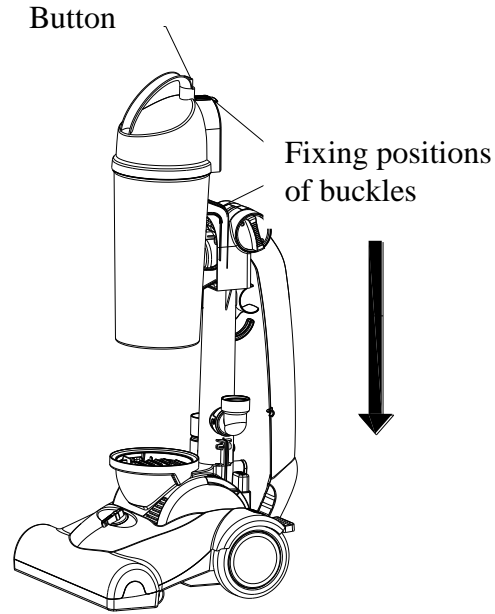

Fig. 2
- i. Cover the cap of dust barrel vertically on the dust barrel and rotate it until it joins with the barrel perfectly (see Fig.2).
- ii. Insert the combination of the cap of the dust barrel and the dust barrel mentioned in the previous step in the combination of the upper cover of the motor and the electric brush (see Fig.2).